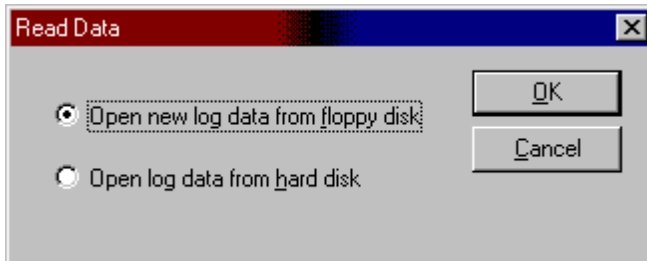

Figure 5.7 Read Data Panel
The Read Data panel (see Figure 5.7) allows you to specify the location of and extract the data from a HIHSM export file (log data). After you have extracted the data from the specified file, you can start displaying the data as graphs (see section 5.5). To open the Read Data panel, select **Open** from the **File** menu or select the  icon on the GraphTool Main panel.
1. Open the Read Data panel (**File-Open**) (refer to Figure 5.7), select **Open new log data from floppy disk**, and then select the **OK** button.
1. Open the Read Data panel (**File-Open**) (refer to Figure 5.7), select **Open log data from hard disk**, and then select the **OK** button.